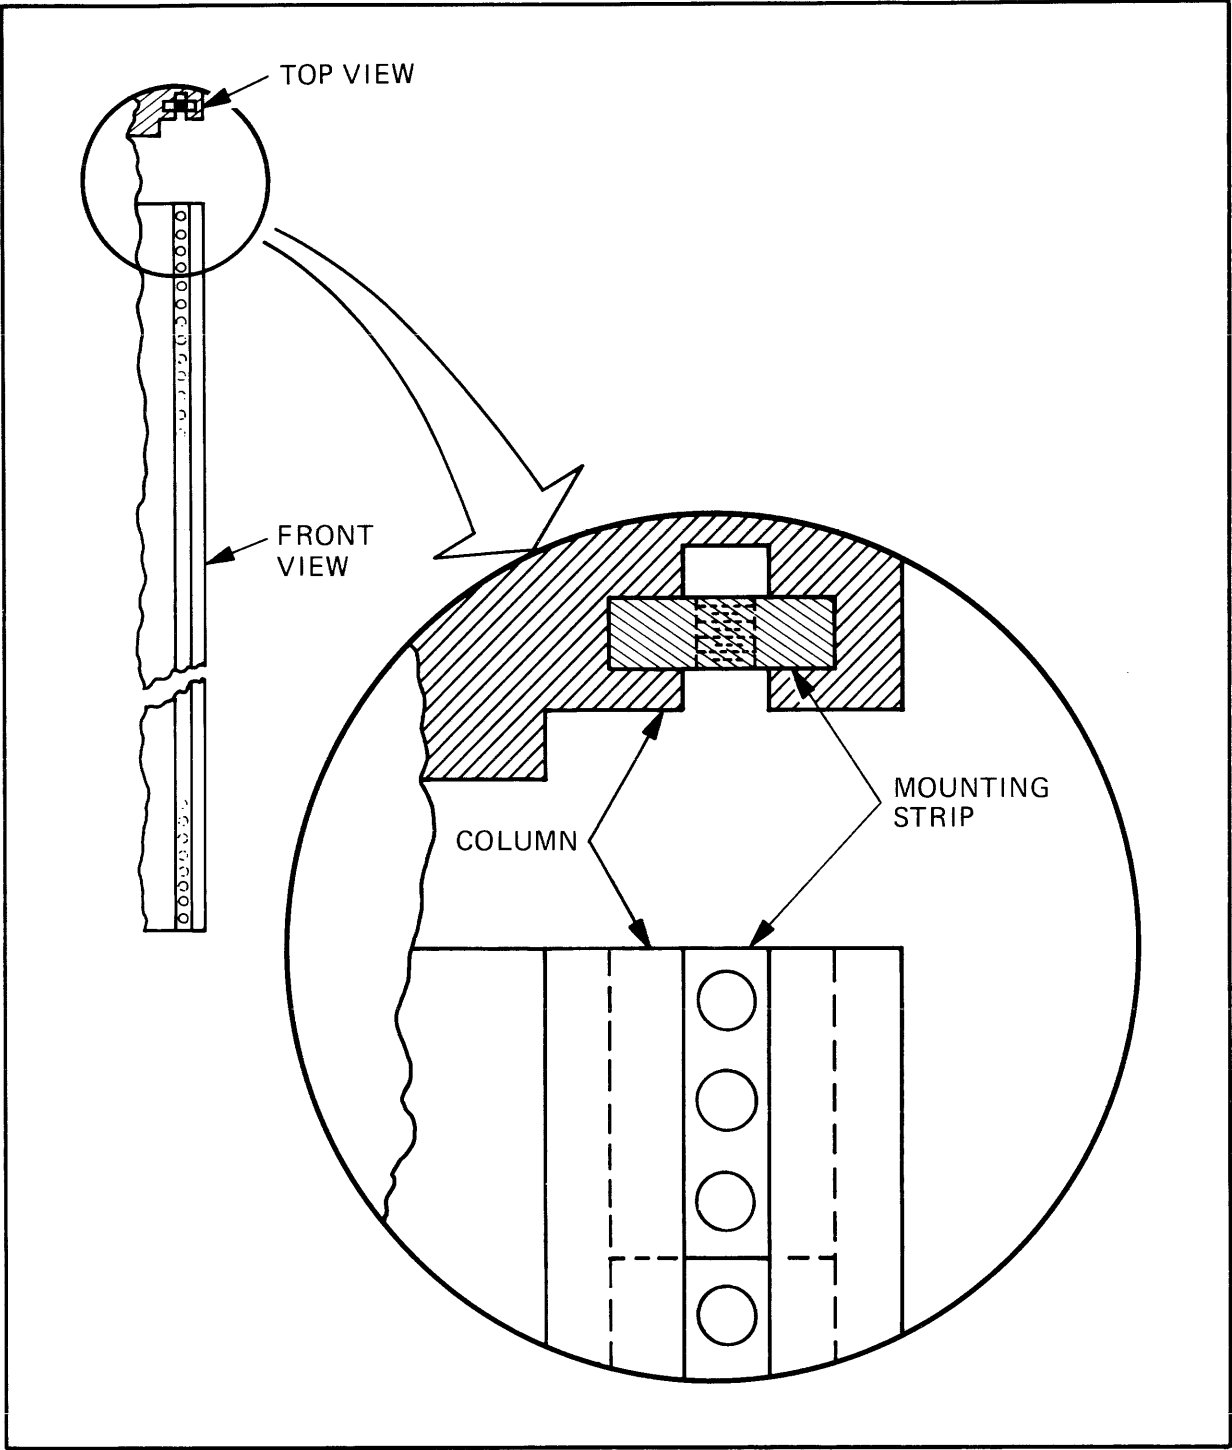
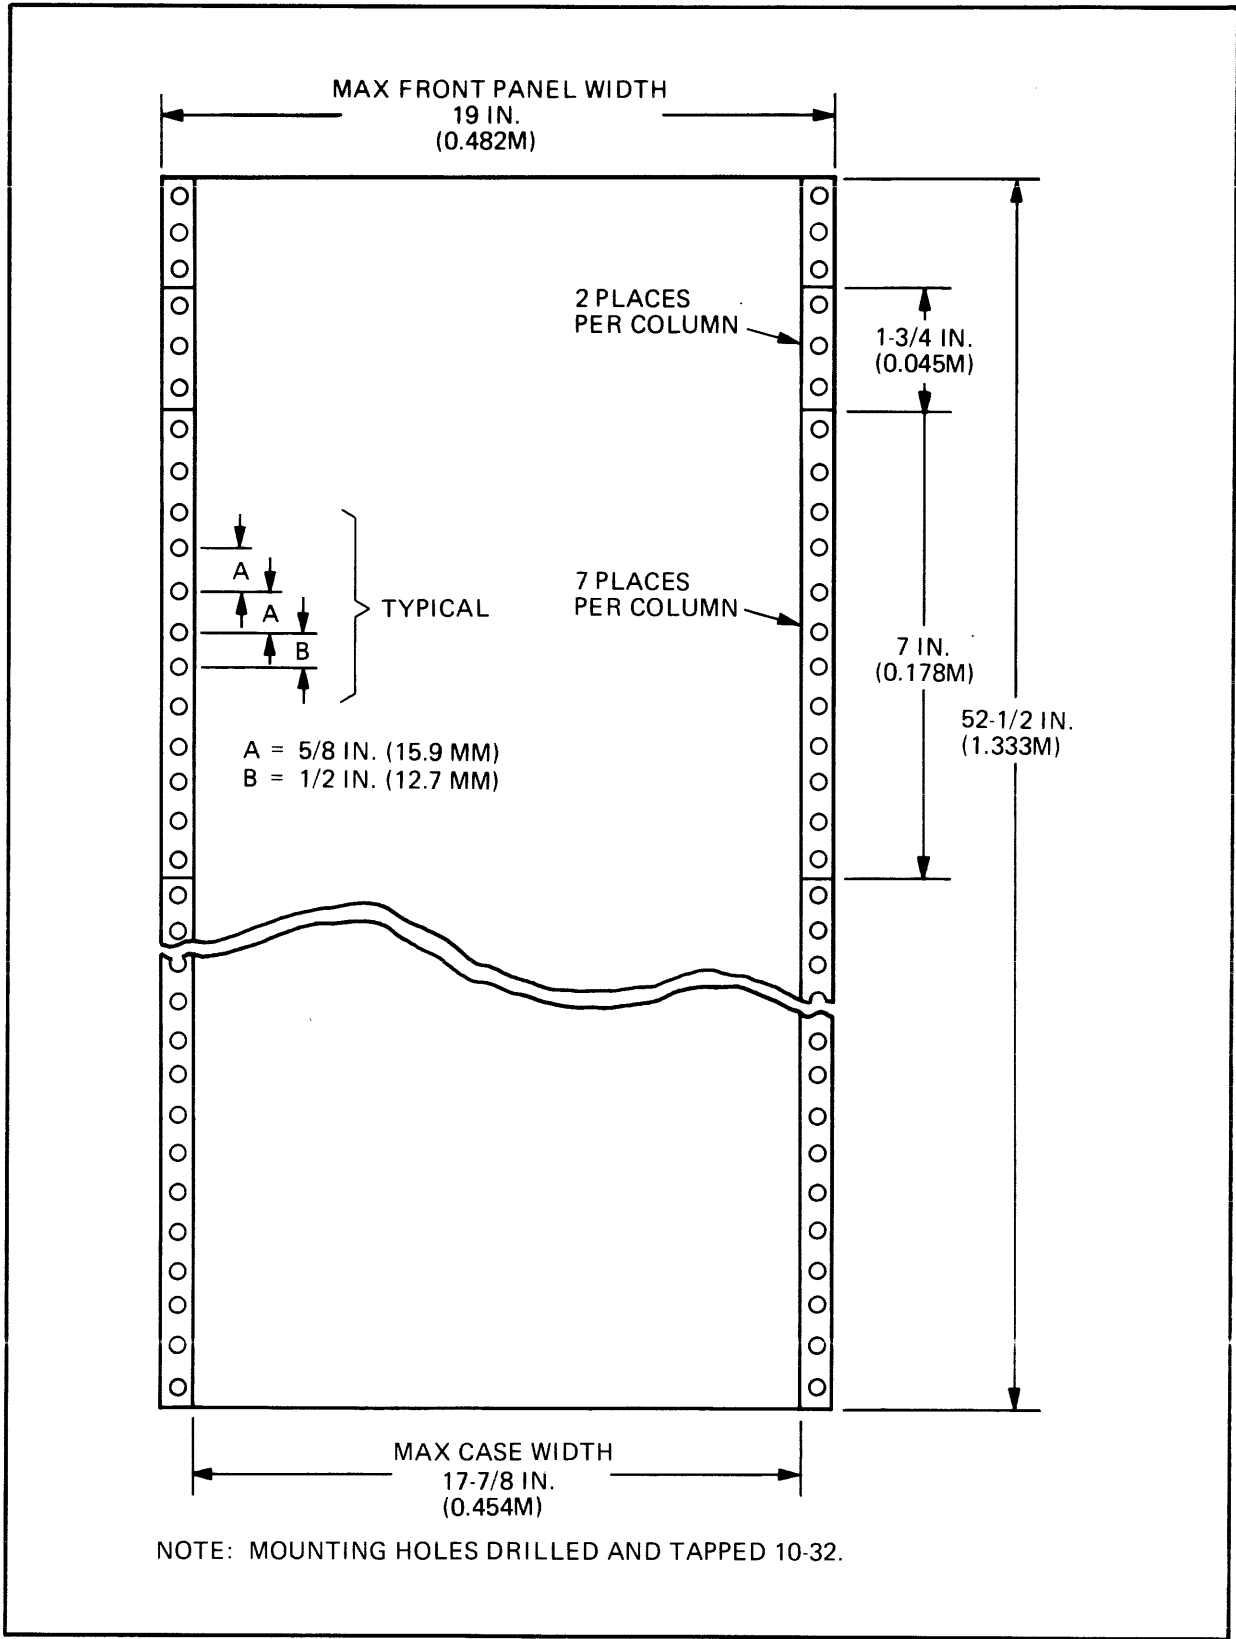

Figure 2-3. Mounting Strips
Figure 2-4. Available Mounting Space
**Mounting Strips.** The cabinet has mounting strips on each side of the equipment bay, both in front and in the rear. The mounting strips consist of short lengths of zinc-plated steel, dropped into a channel in each of the extruded columns (figure 2-3). The strips are drilled and tapped for standard 10-32 machine screws. Each column has seven 7-inch lengths on the bottom, topped with two 1 3/4-inch lengths. Figure 2-4 shows the hole spacing in the mounting strips, and the available equipment space. Equipment is mounted inside the cabinet by securing the equipment mounting flange (standard 19-inch only) to the mounting strips with 10-32 machine screws. The hinges of the front doors are placed directly over the equipment mounting flange and secured to the mounting strips (sandwiching the flange). The front doors may be left off, if desired, to expose the front panels of the equipment.